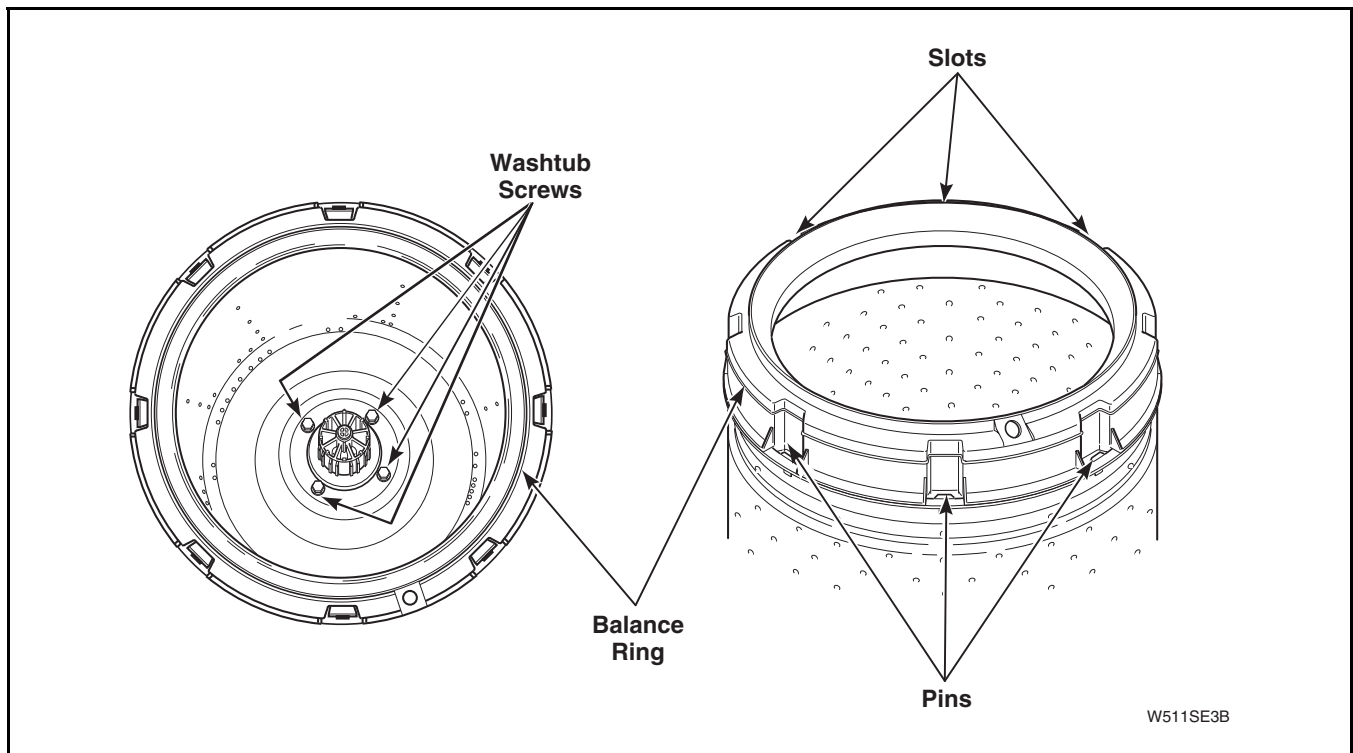

Figure 40
- m. Remove screws (and gaskets if present) holding washtub to hub. Refer to *Figure 40*.
- Place blade of a small screwdriver into slots between balance ring and washtub. Refer to *Figure 40*.
- Carefully pry pins of balance ring out of holes in washtub. Refer to *Figure 40*.
- (8) Cross over to opposite side of tub cover and push down firmly on top of hold-down tabs until tabs snap over edge of outer tub flange. Continue with this criss-cross pattern, until tub cover is fully seated. Visually check each tab area again to ensure cover is seated.
- a. Remove screws holding washtub to hub. Refer to *Figure 40*. Then lift washtub (with balance ring attached) out of outer tub.